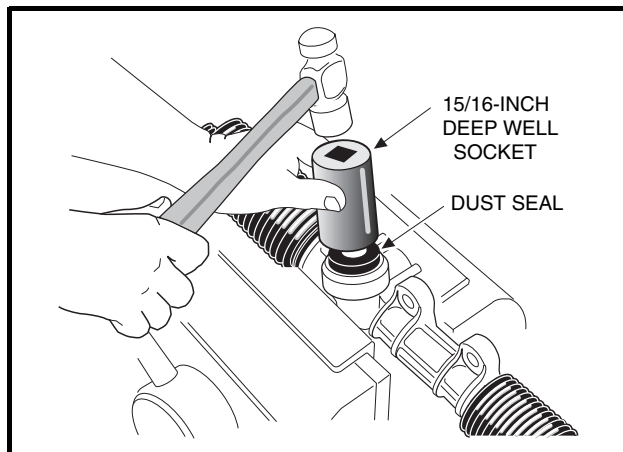

Figure 7-12 Press In Dust Seal
9. Use a socket to apply pressure evenly, and press in a new dust seal (**Figure 7-12, Page 7-10**).